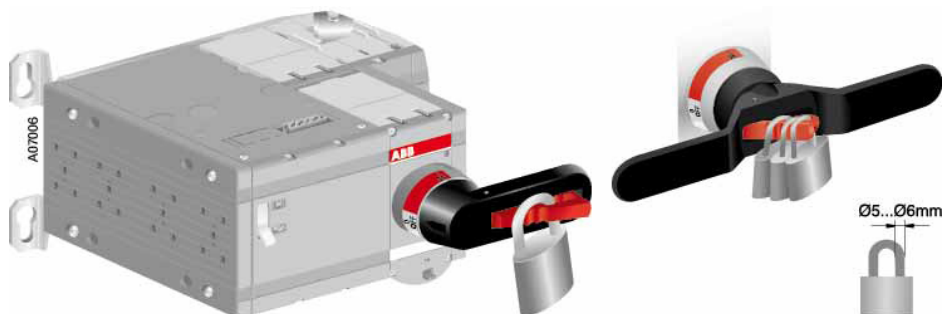

Figure 6.8 Locking the manual operation
2. Pull out the clip from the handle and place the padlock on the handle; see Figure 6.8